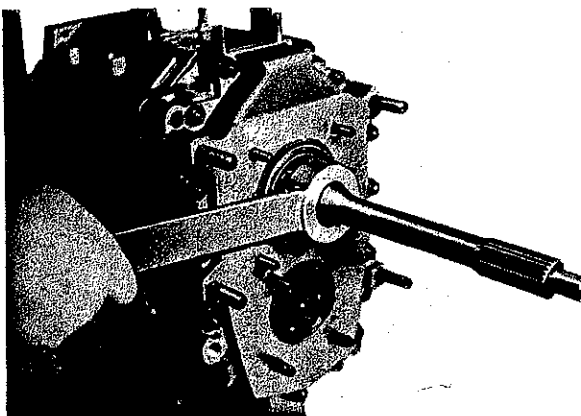

Fig. 8
6.2 Loosen slot nut (204) on input shaft with slot nut wrench .6. (Fig. 8). Caution, lefthand threads!